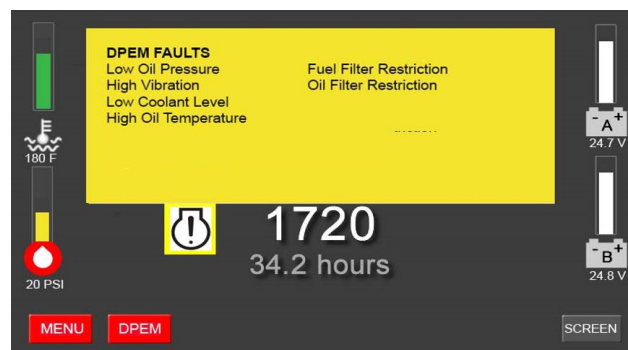

Figure 2-6 DPEM fault screen (sample)
- **From the FPDP** - As shown in Figure 2-6, the warning symbol will illuminate and the overlay will activate in yellow with the text of the active fault.